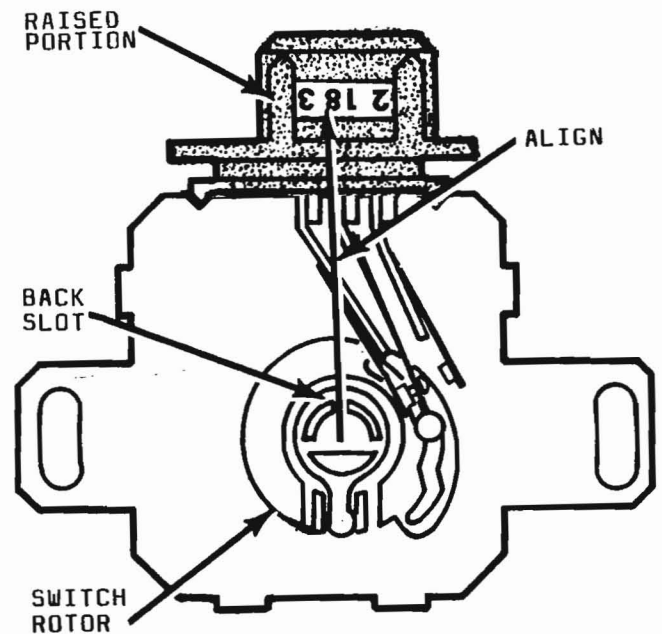

Figure 10
48. Push the throttle down farther until the rotor back slot aligns with the number "8" of the "18" on the connector body. The ohmmeter should indicate continuity (full throttle points are closed). See figure 10.